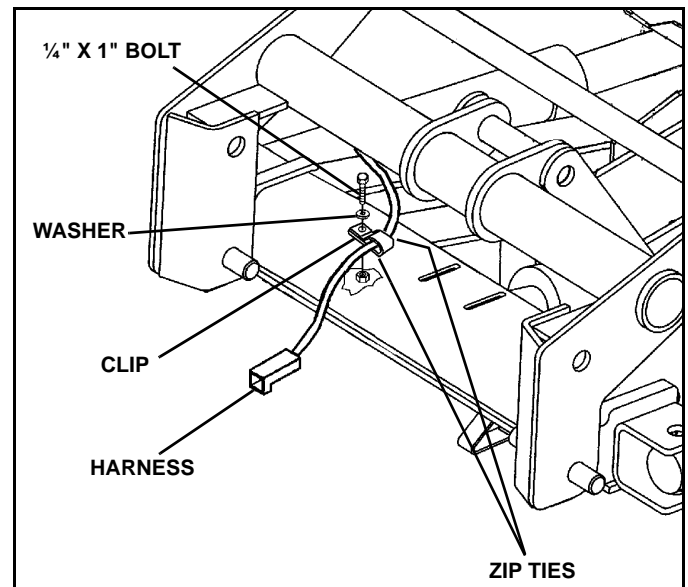

Figure 1-8
16. Run power harness towards back of plow. Secure with clip and 1/4" x 1" bolt, washer, and lock nut, found in A-frame parts bag, through hole in back of A-frame. (See Figure 1-8).
17. After the plow set up is complete and the harness routing between the plow and vehicle is established, install a zip tie on each side of the clip to prevent the harness from sliding in the clip. This will prevent the length of the harness from changing. (See Figure 1-8).